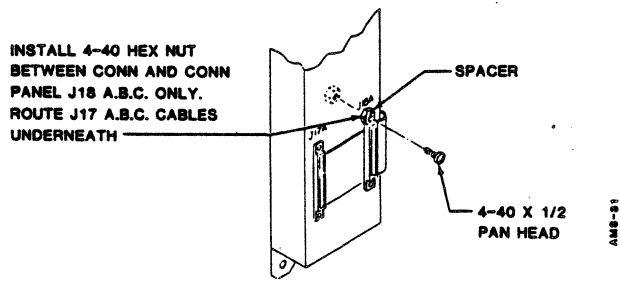

Figure 7-22. Flat Cable Interface Routing to Connector Mounting Panel
6. During installation of the flat cable interface connector (J17) to the cabinet connector panel at rear, use the spacers provided to raise J18 connector off of the cabinet connector panel and allow the J17 cable to pass underneath, (see Figure 7-22).